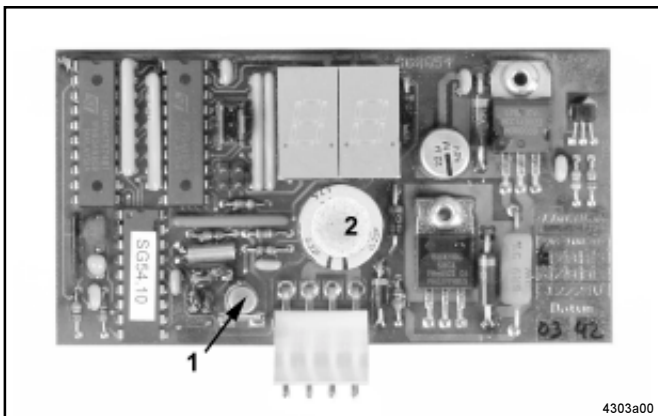

Fig. 15 - Control p.c.b. 236-10028-1
- In the control p.c.b., this task is provided by an integrated motion sensor 1 (fig. 15). It records travelling motions of the trailer/ semitrailer. Out of this recorded material, it forms the necessary operation dependent signal for controlling the time of availability.
- Normally, the stop light voltage lasts for a short instance only. Therefore, a condensator is needed to record the times (see fig. 15). On the braking process, the condensator loads and is then available as a continuous power supply in order to provide the operation dependent signal.
- The time during which the printed circuit board records the travelling motions by means of the motion sensor 1 (fig. 15) is defined as the time of availability.